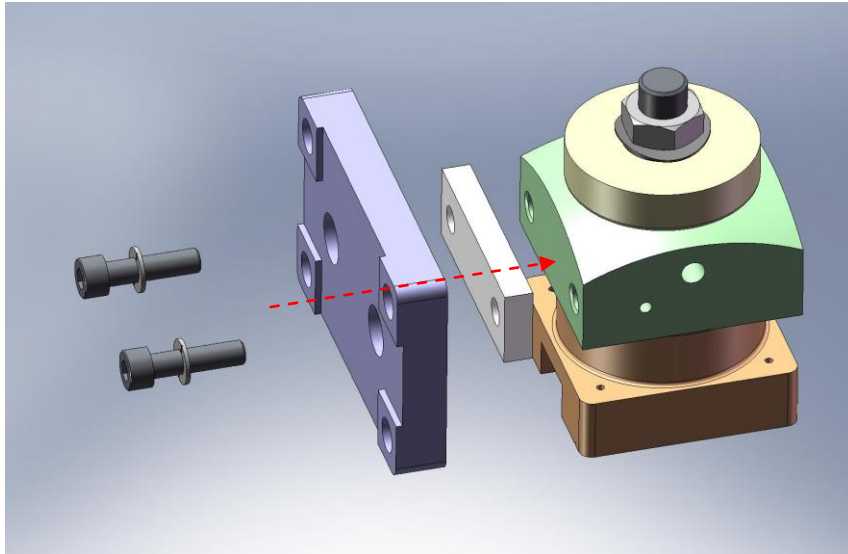

Figure 3.38. Add Standoff and Base Plate, to complete Horizontal Position Sensor Assembly (accept for sensor).
- For (3) **Horizontal Position Sensor Assemblies**, place **Horizontal Sensor Head Standoff** (D071170) between **Sensor Head Mount** and **Sensor Head Base Plate** (D071164), as shown in Figure 3.38. Add screws and torque to final spec.